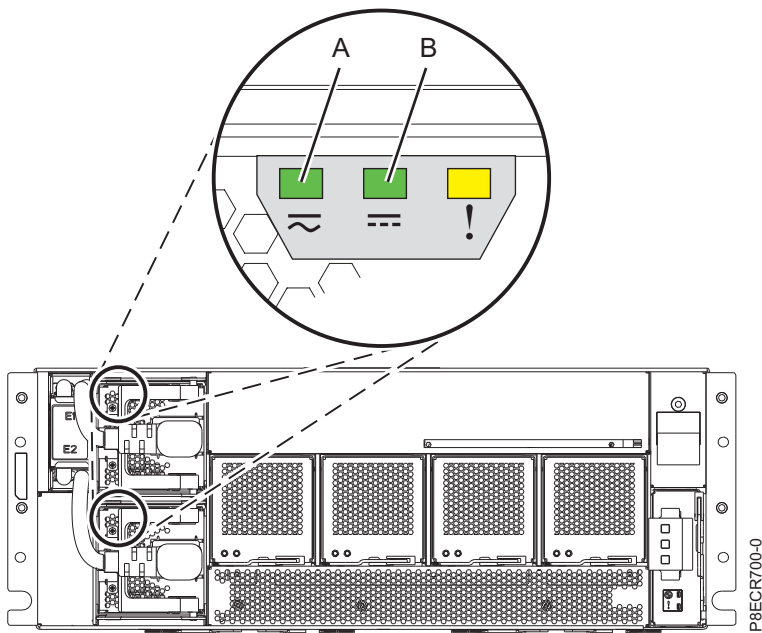

Figure 8. Verifying the power supply LEDs are on
1. Ensure the input power LED (A) on the power supplies is on. See Figure 8.